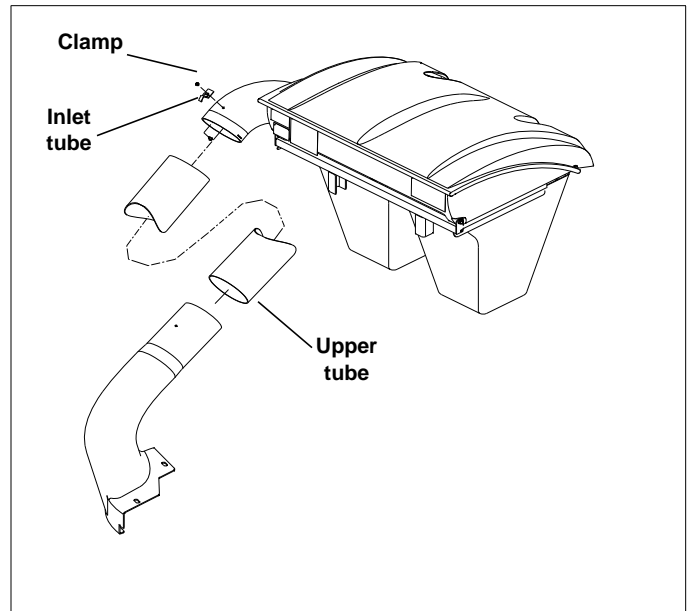

Figure 5-1
- Upper tube is in place on the discharge chute outlet and on the catcher lid intake tube and clamped. Figure 5-1 and Figure 5-2